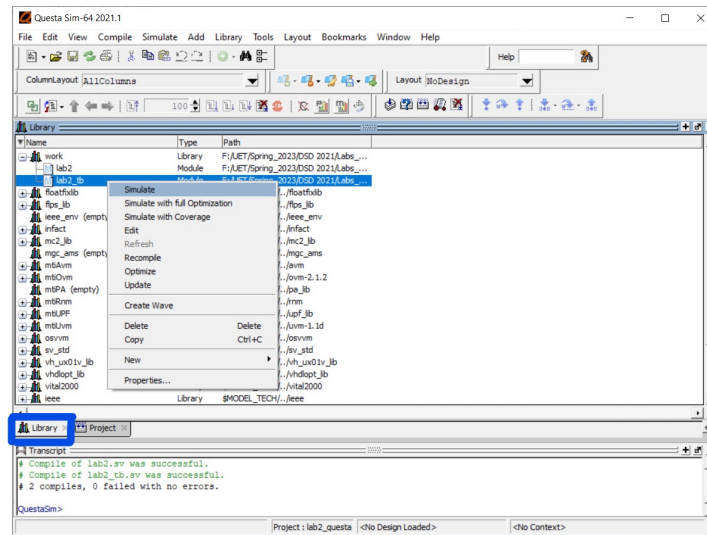

Fig. 2.10: Start Simulation.
- Then go to *Library* tab. Expand the *work* tab and click the test bench file (in our case lab2_tb). And select *Simulate*. (Fig. 2.10).